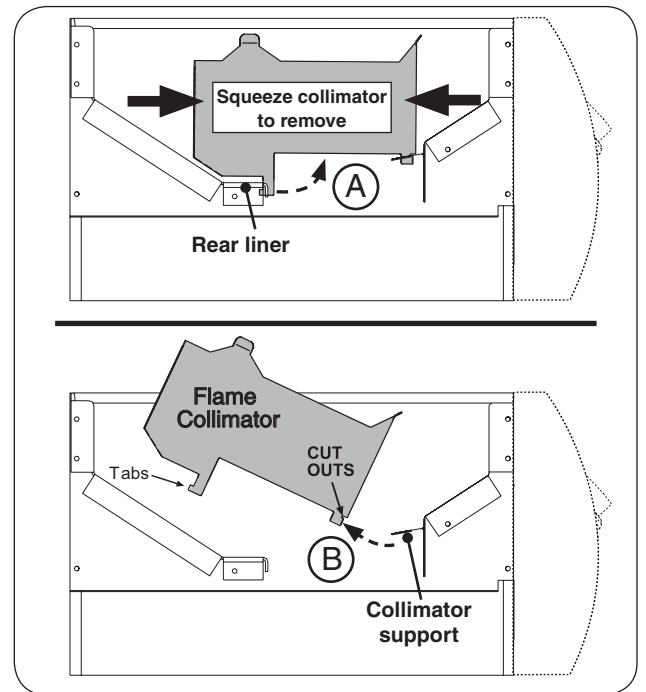

Fig. 35-2 Flame collimator removal
2. Squeeze the collimator to detach the rear tab from the rear liner as shown in Fig. 35-2, A, and lift up the rear portion of the collimator.
3. Detach the collimator from the front collimator support and completely remove the collimator as shown in Fig. 35-2, B.